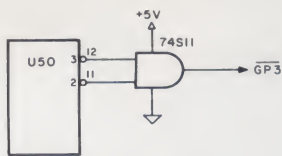

Fig. 8. Modifying the GP circuits for a 32K board using 24 ICs.
2. 32K board using 16 bad ICs and eight good ICs. Plug the 16 bad ICs into Group 1 and 2 sockets, plug the eight good ICs into Group 3, then cut the paths to U50, pins 11 and 12, and insert an AND gate as shown in Fig. 8. Pins 11 and 12 formerly produced the $\overline{GP3}$ and $\overline{GP4}$ signals. Now whenever either of these signals is low, the AND gate will produce $\overline{GP3}$ and enable the good ICs plugged into the Group 3 sockets.